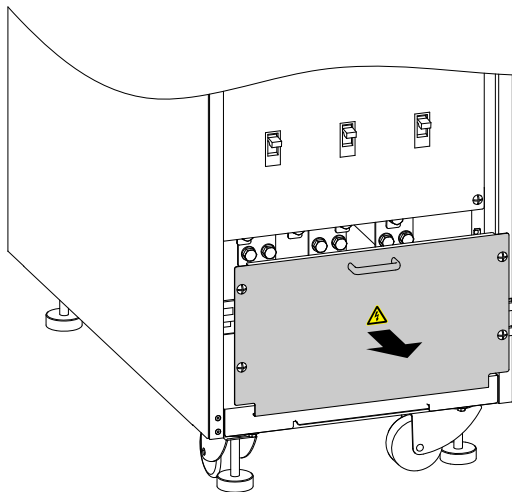

Figure3-17 Remove bottom wiring cover plate
Step 1 Open the front door of the UPS, remove the bottom wiring cover plate, as shown in Figure3-17.